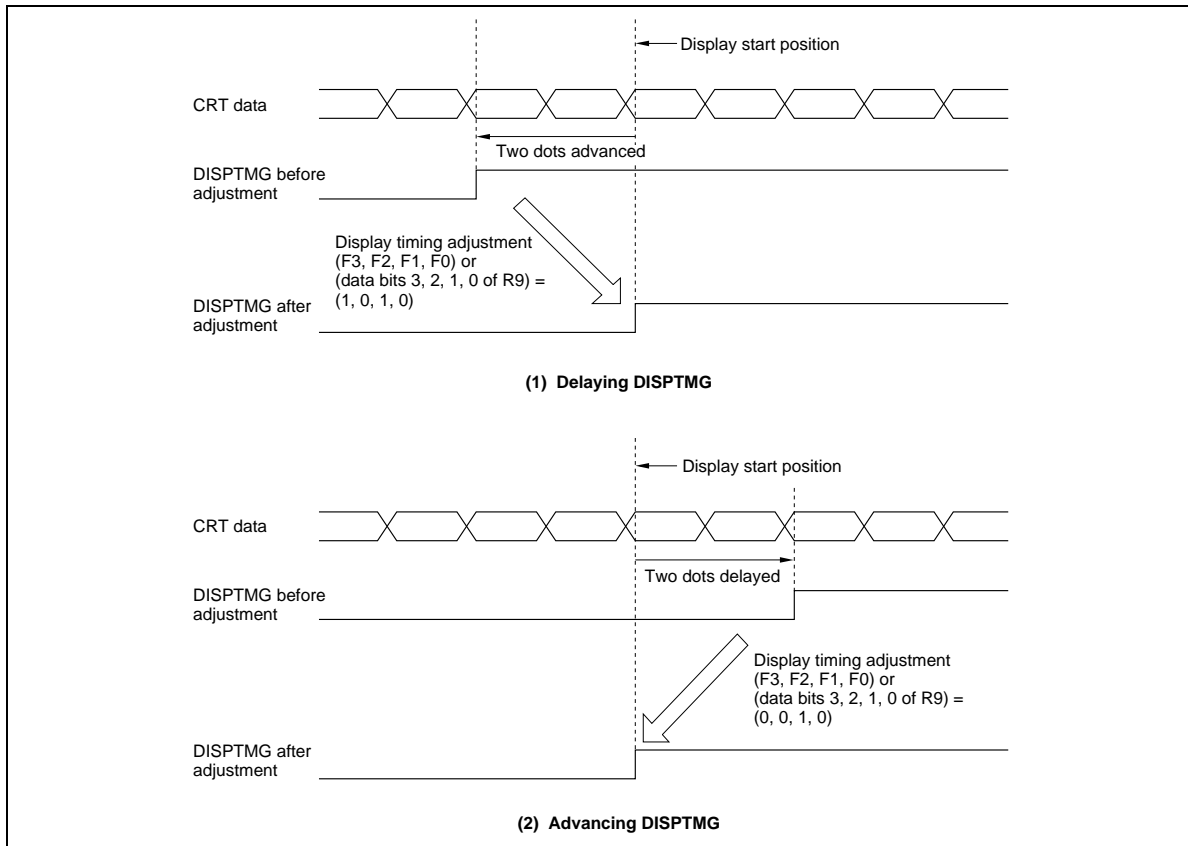

Figure 17 Adjustment of Display Timing Signal
Examples of adjusting the display timing signal are shown in Figure 17. Since the signal is two dots ahead of the display start position in case (1), F3, F2, F1, and F0 or data bits 3, 2, 1, and 0 of R9 should be set to (1, 0, 1, 0) to delay the signal by two dots. Conversely, since the signal is two dots behind the display start position in case (2), they should be set to (0, 0, 1, 0) to advance the signal by two dots. If there is no need to adjust the signal, a settings of either (0, 0, 0, 0) or (1, 0, 0, 0) will do.